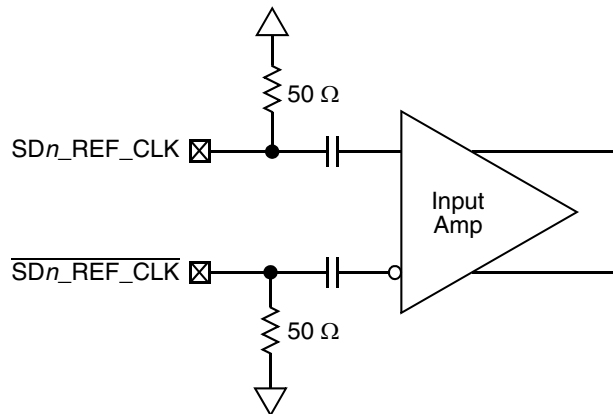

Figure 45. Receiver of SerDes Reference Clocks
Figure 45 shows a receiver reference diagram of the SerDes reference clocks.
- The $\overline{SDn_REF_CLK}$ and SDn_REF_CLK are internally AC-coupled differential inputs as shown in Figure 45. Each differential clock input ($\overline{SDn_REF_CLK}$ or SDn_REF_CLK) has a 50- Ω termination to $SGND_SRDSn$ (xcorevss) followed by on-chip AC-coupling.